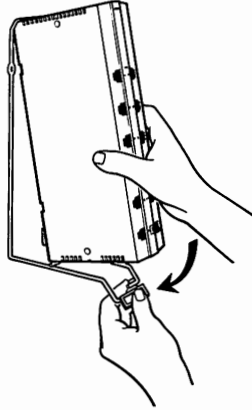

Figure 2-4. Snap the NEU into the frame.
4. Snap the NEU into the frame (Fig. 2-4).